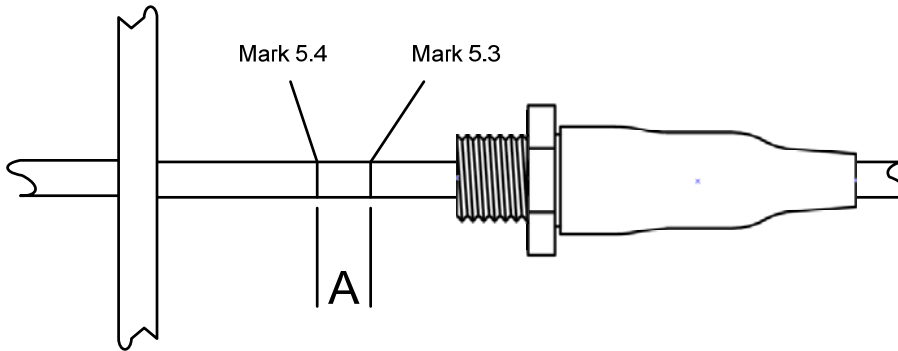

Figure 2
5.4 Make a second mark, distance 'A' towards the cabinet from the first mark made in 5.3. See Figure 2. Distance 'A' depends upon the feedthrough size and is given in Table 1.